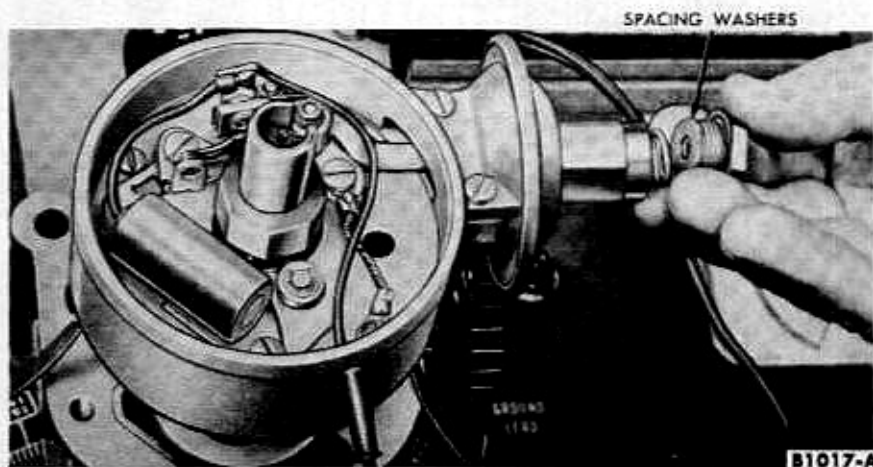

FIG. 12—Vacuum Advance Adjustment
3. If the advance is incorrect, change the spacing washers between the vacuum chamber spring and nut (Fig. 12). After installing or removing the washers, position the gasket in place and tighten the nut. The addition of a washer will decrease advance and the removal of a washer will increase advance.